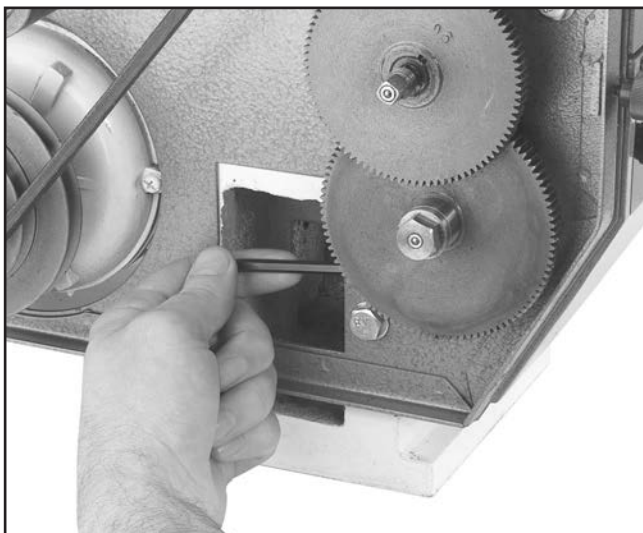

Figure 41. Loosening gear bracket cap screw.
6. Loosen the cap screw on the gear bracket with the 5mm allen wrench as shown in **Figure 41**.